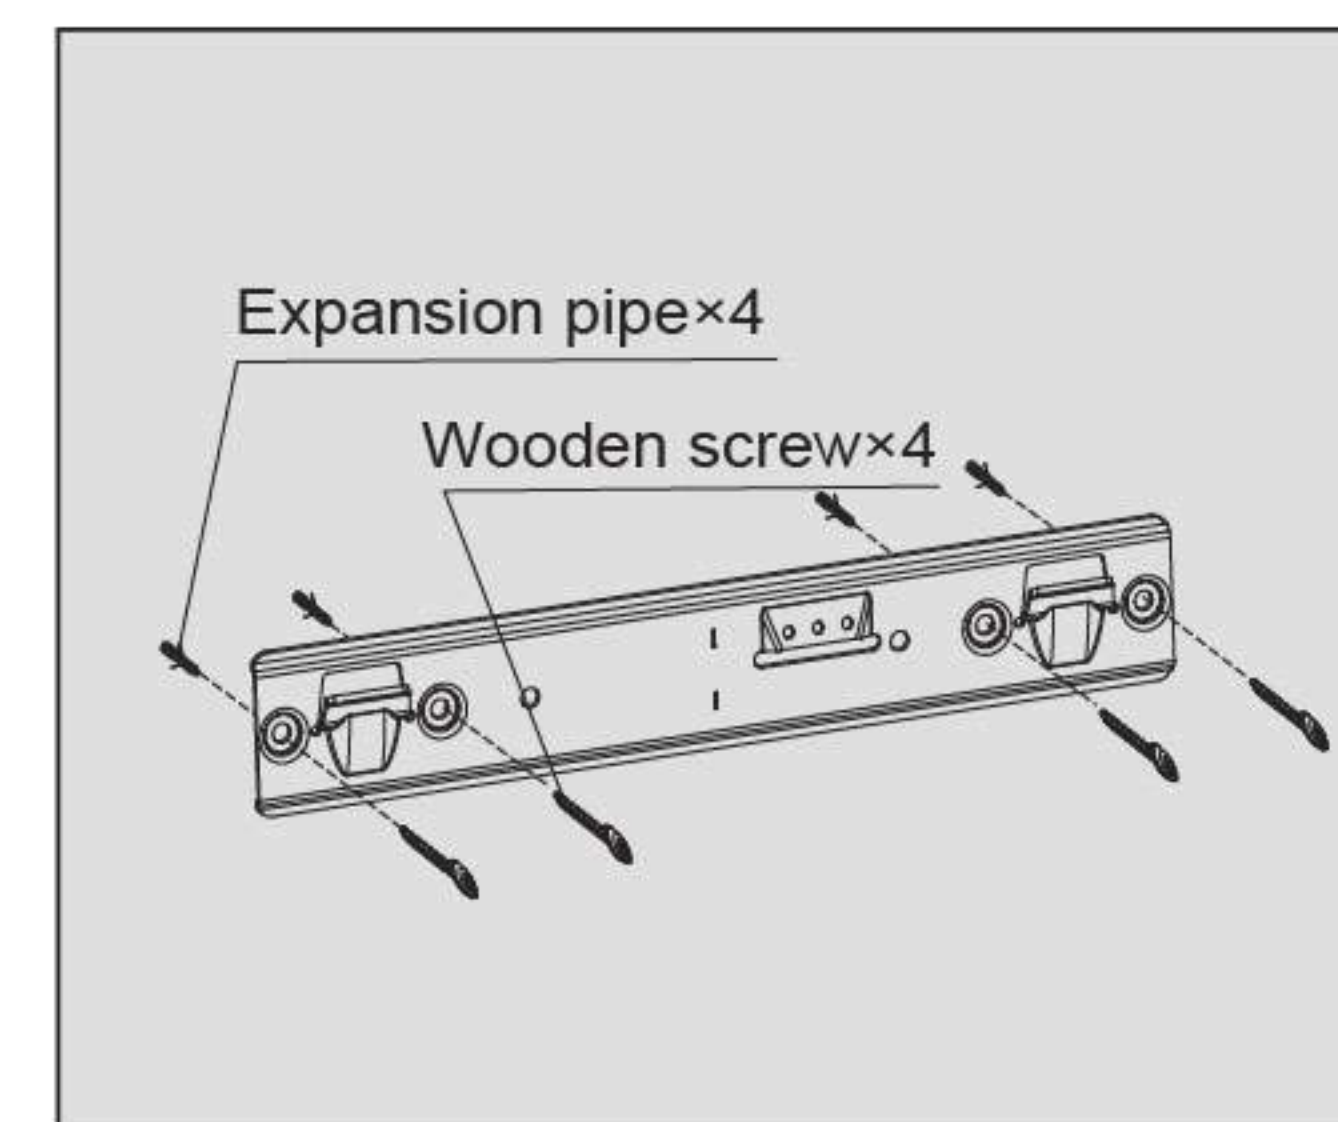
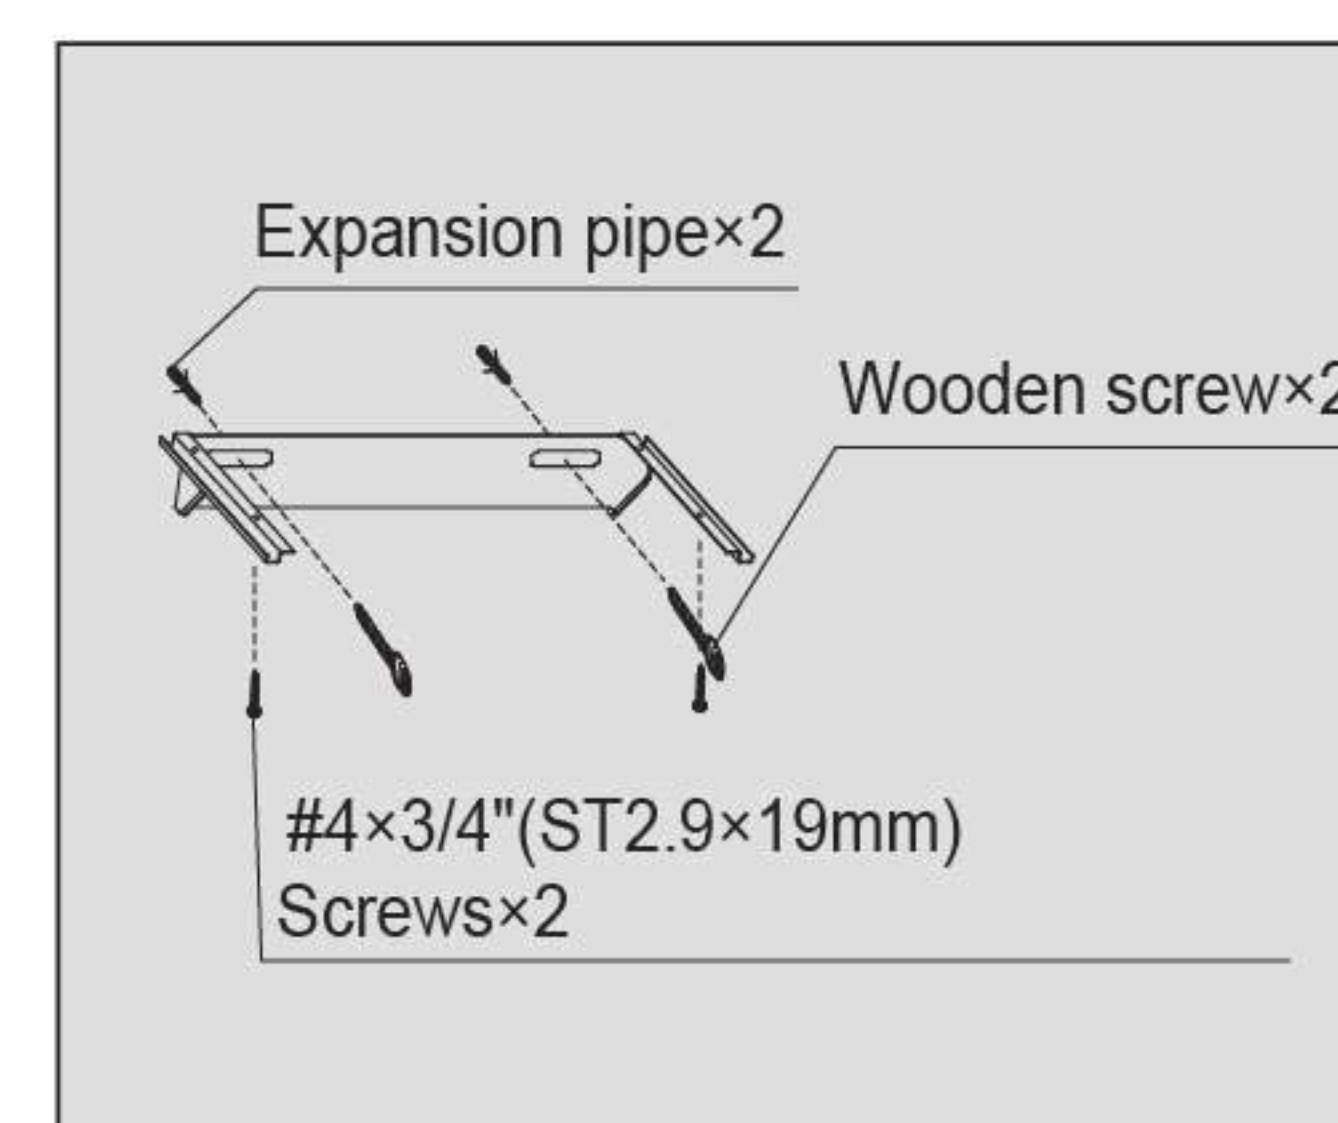

Figure 1
Figure 2
- Refer to installation diagram, set the right position on the wall to drill and then firmly imbed the expansion pipe. Insert  $\#10 \times 2 \frac{9}{16}$ " (ST5 $\times 65\text{mm}$ ) wooden screws to tighten the fixed pothook and decorative cover pothook; then use two  $\#4 \times \frac{3}{4}$ " (ST2.9 $\times 19\text{mm}$ ) Screws to fix the decorative cover on the suspended ceiling (see Fig 1 and Fig 2).